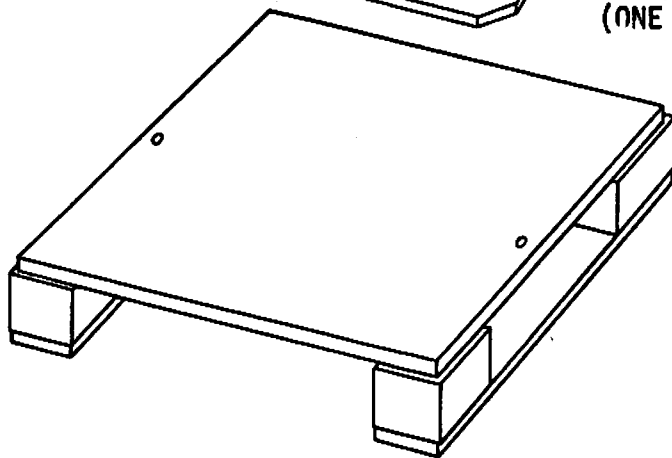

FIGURE 2-1 UNPACKING THE PRINTER
- 1) Cut the packing straps and remove the box by sliding it up and off. Refer to Figure 2-1.